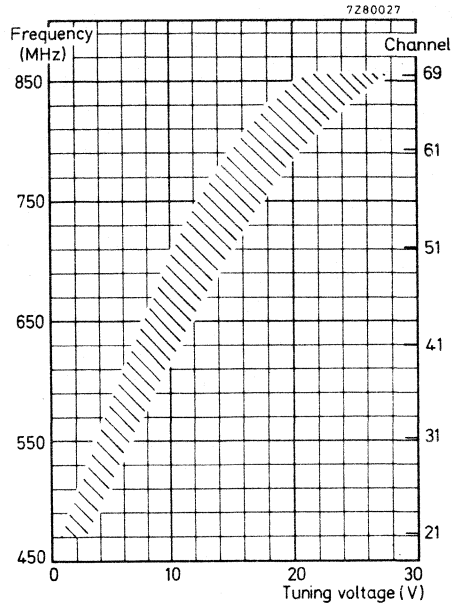

Fig. 6.
**Tuning voltage range (Fig. 6)**